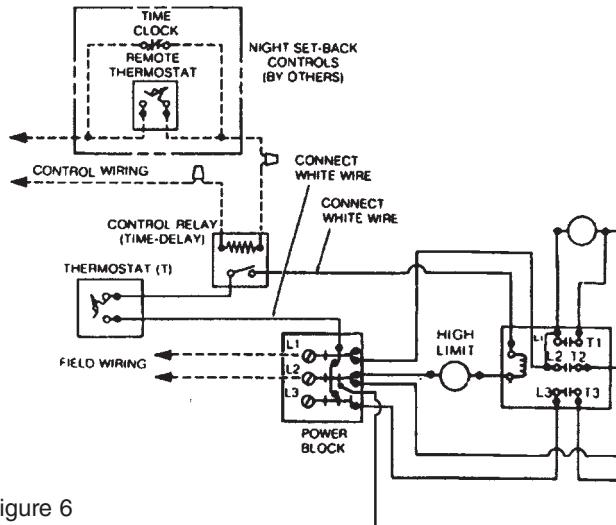

Figure 6
- For night setback operation, refer to wiring diagram, Figure 6. **NOTE:** The control relay must be energized for day operation.